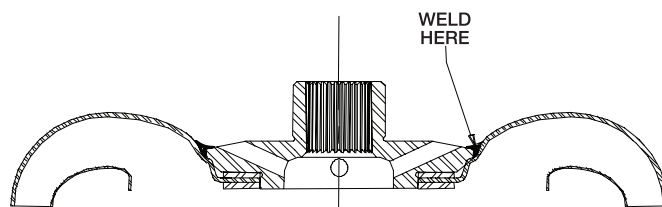

Figure 3
3. Fixture the hub and weld (see Figure 3).